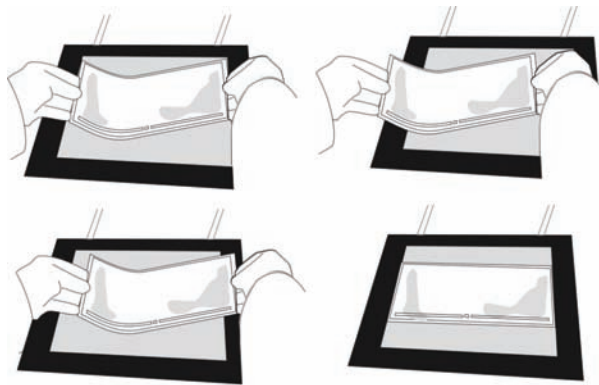

Fig. 4.4
9. Grip the gel (surface-up) at the two lateral edges at the protruding film, bend into a "U-shape" and slide the film-backing left and right on the cooling plate to distribute the cool contact fluid evenly (Fig. 4.4).